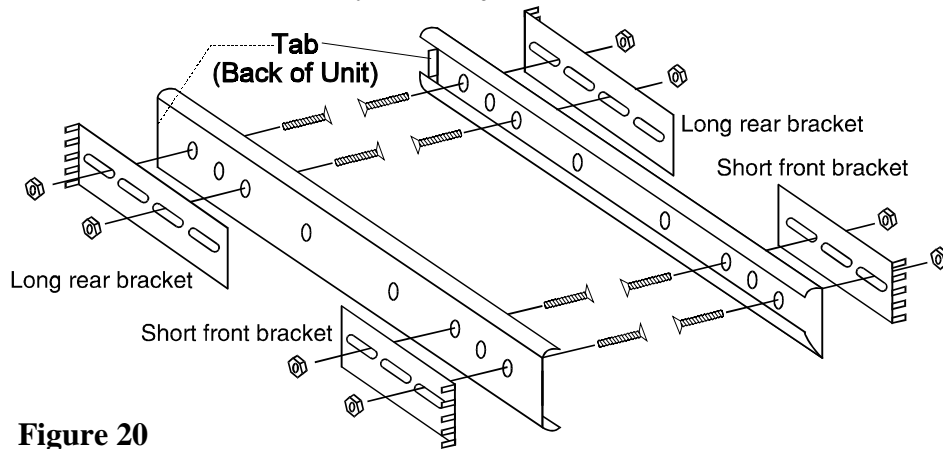

Figure 20
Now, find the long and short brackets, the flat head screws and the nuts that you received with your cabinet (items 5, 6, 2 and 3). See Figure 20 below. Use **at least** two screws and nuts to securely fasten one long bracket to the **back** of each outer rail.
Now, use at least two screws and nuts to fasten one short bracket securely to the **front** of each outer rail as shown in Figure 20. The brackets are slotted so you can adjust them to fit in the rack.